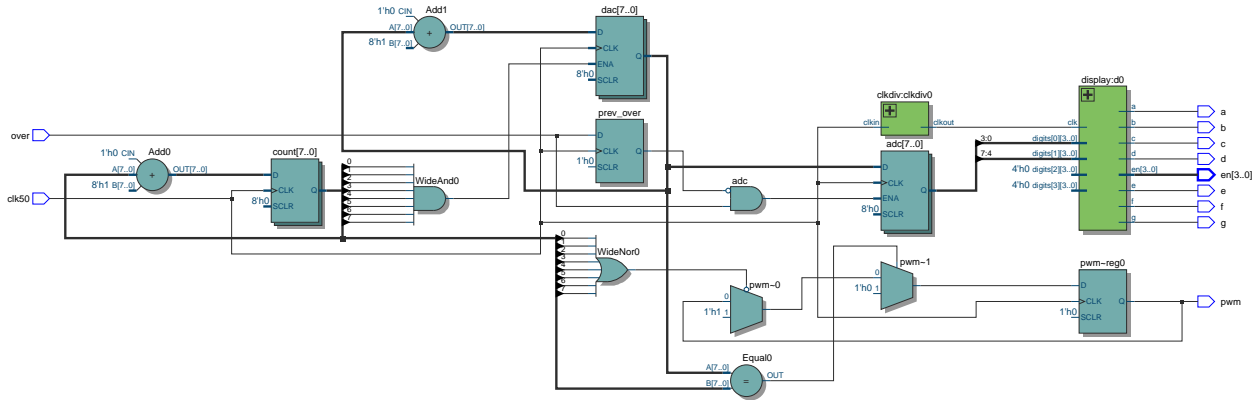

Figure 2: Synthesis results generated by Quartus.
- The schematic generated from Tools > RTL Netlist such as that in Figure 2.